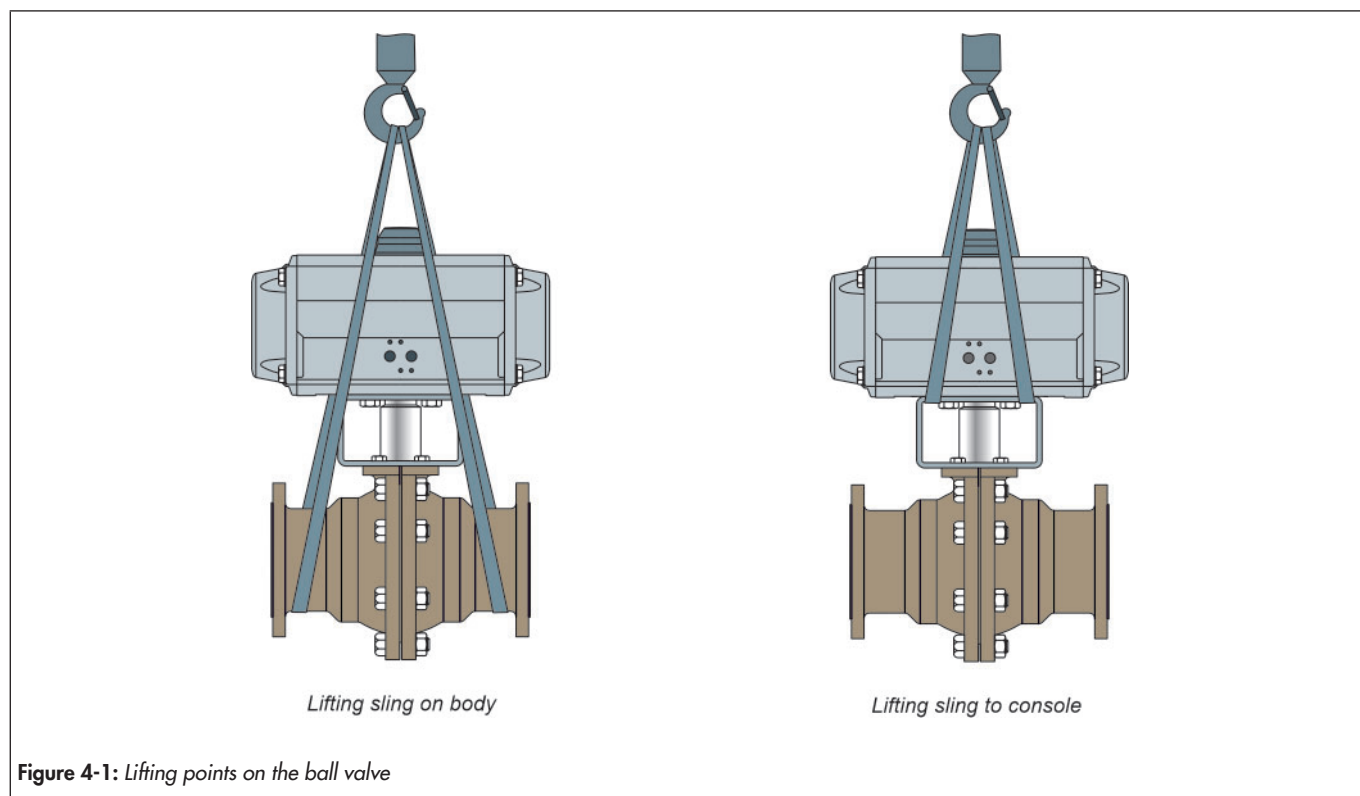

Figure 4-1: Lifting points on the ball valve
- ⇒ Use a hook with a safety clamp as the suspension element so that the sling cannot slip off the hook during lifting and transport, see Figure 4-1.
- ⇒ Fasten a lifting sling to each flange of the housing and on the suspension element (e.g. hook) of the crane or forklift, see Figure 4-1. When doing so, ensure the safety, bearing capacity and length of the lifting slings
- ⇒ Fasten a lifting sling to the bracket and the suspension element (e.g. hook) of the crane or forklift, see Figure 4-1. When doing so, ensure the safety, bearing capacity and length of the lifting slings.